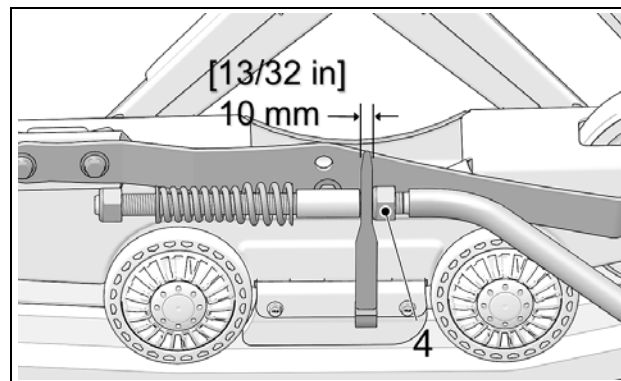

Figure 10
- Set the nut (4) to obtain a distance of 10 mm between nut and stabilizing arm guide as shown on Figure 10.